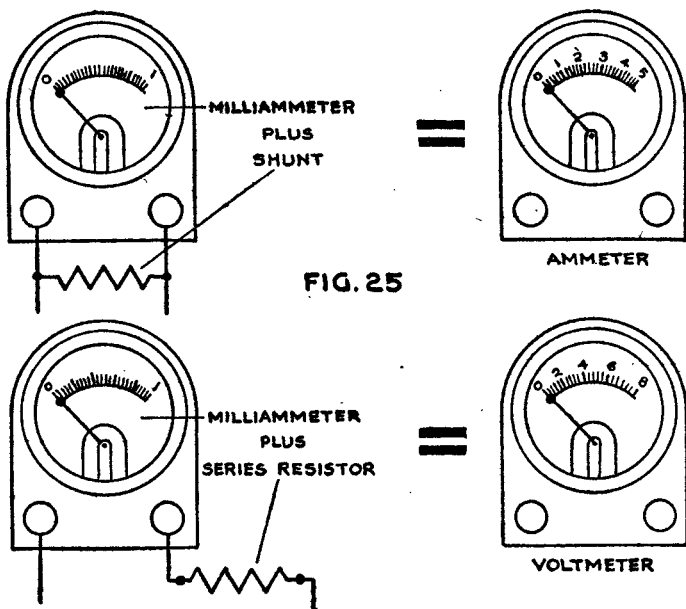

FIG. 25
*The Ammeter:* By adding a shunt resistance across the terminals of an ordinary milliammeter, as shown in Fig. 25, we can transform it into an ammeter. In the case of regular commercial ammeters, this shunting resistance often is a part of the meter case. Measurements made with an ammeter are called amperes (1,000 milliamperes), the standard unit for current. The ammeter is connected in *series* with a circuit.